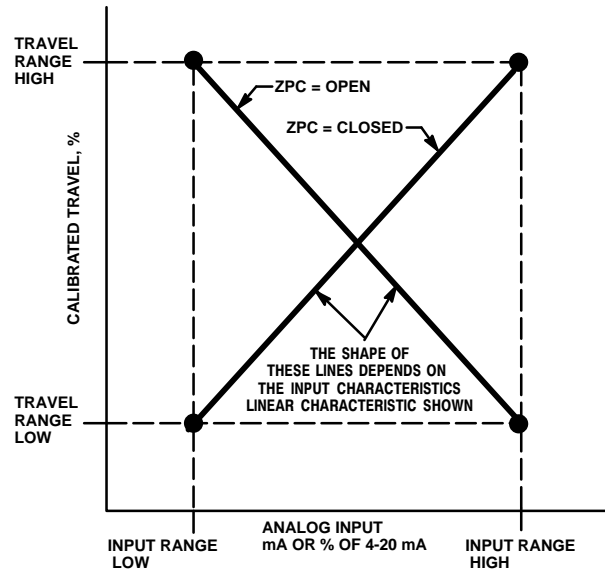

Figure 4-5. Calibrated Travel to Analog Input Relationship
- **Input Range Hi**—Permits setting the Input Range High value. Input Range High should correspond to Travel Range High, if the Zero Power Condition is configured as closed. If the Zero Power Condition is configured as open, Input Range High corresponds to Travel Range Low. See figure 4-5.
- **Input Range Lo**—Permits setting the Input Range Low value. Input Range Low should correspond to Travel Range Low, if the Zero Power Condition is configured as closed. If the Zero Power Condition is configured as open, Input Range Low corresponds to Travel Range High. See figure 4-5.